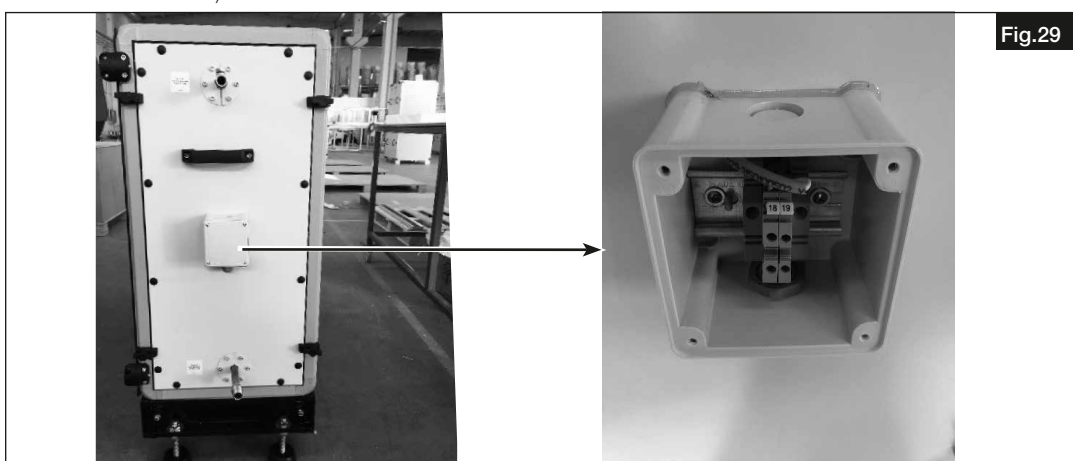

Fig.29
7. Open terminal box cover. Check cable thickness for power connection. Connect the cables to the terminals and close the terminal box cover (see Fig.29).